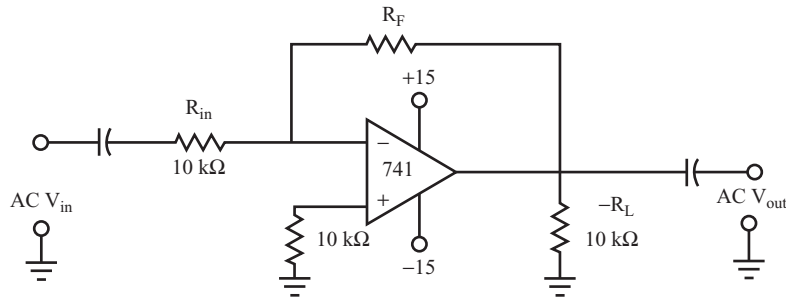

FIGURE 8.35
**45** Figure 8.35 shows a basic op-amp circuit. The input signal is connected to an inverting input, as indicated by the negative sign. Therefore, the output signal will be 180 degrees out of phase with the input.
**46** Use the op-amp circuit shown in Figure 8.35 to build an amplifier with an output voltage of  $12 \text{ V}_{pp}$ , an AC voltage gain of 50, and with  $R_{in} = 6.8 \text{ k}\Omega$ .